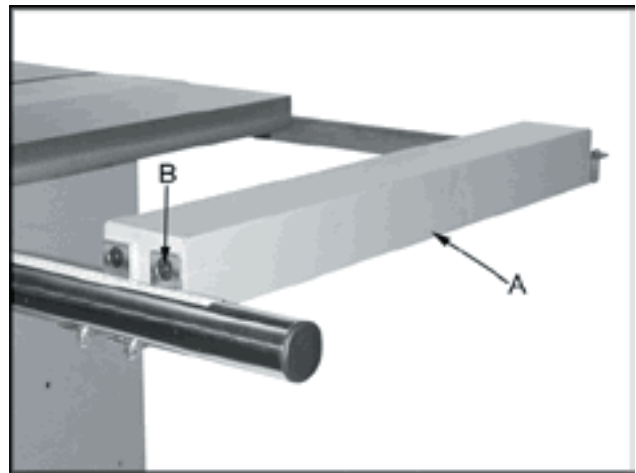

Figure 7
7. Mount the support (A, Figure 7) between the guide rail and the rear rail. Attach the front side with two M10x16 flat head socket bolts, two M10 lock washers and two M10 hex nuts (B, Figure 7).